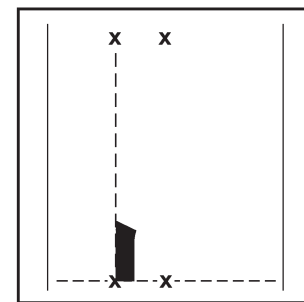

Figure 28
4. Lay out the curve arrow base (liner still on) with the LEFT edge against the chalk line and the base along the base line (see Figure 28).